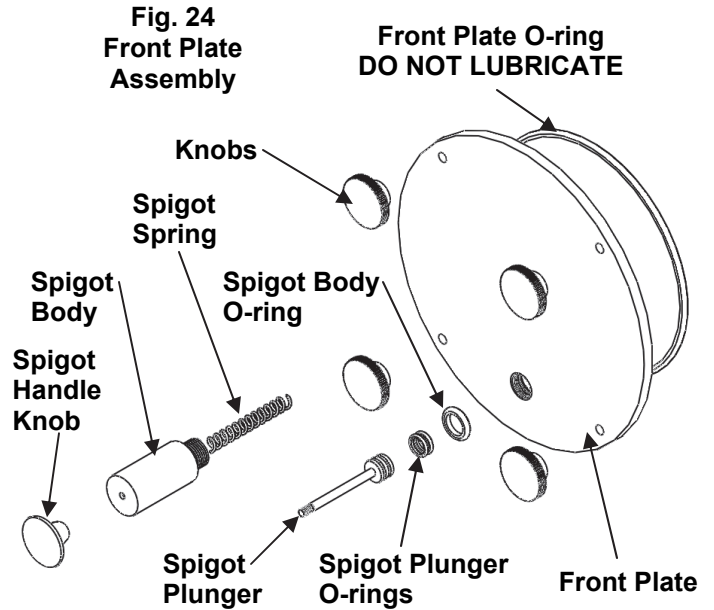

Fig. 24
- c. Insert the lubricated Spigot Plunger and Spring into the Spigot Body (Fig. 24), making certain that the spigot plunger shaft is coming out the front of the Spigot Body.